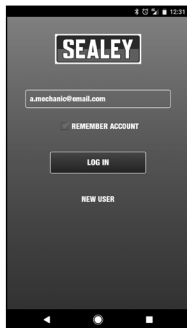

fig.4
4. Log in: Enter the email address provided during registration. Check the box for "REMEMBER ACCOUNT". Press "LOG IN". (fig.4)